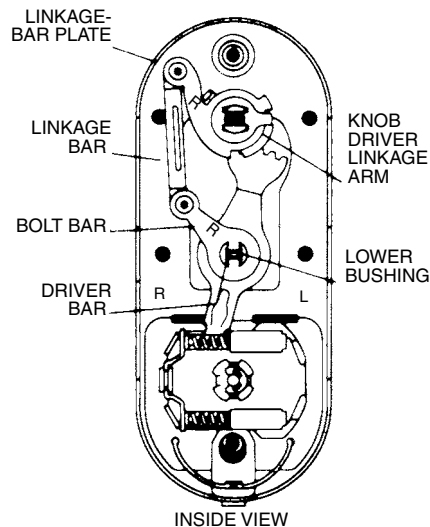

Figure 13.72 Changing hand, Step 3.
3. Remove the linkage-bar plate, linkage bar, bolt bar, driver bar, knob-driver linkage arm, and lower bushing (Fig. 13.72).